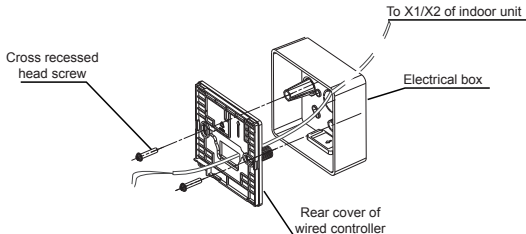

Figure 3.6
**3-3-4** Take the shielded wiring that has been pre-embedded in the wall, and thread it through the wire hole of the rear cover. Use the Philips head screws (accessory 1) to fix the rear cover of the wired controller to the electrical box via the support bars. Make sure that the rear cover is not deformed after being installed (see Figure 3.6).